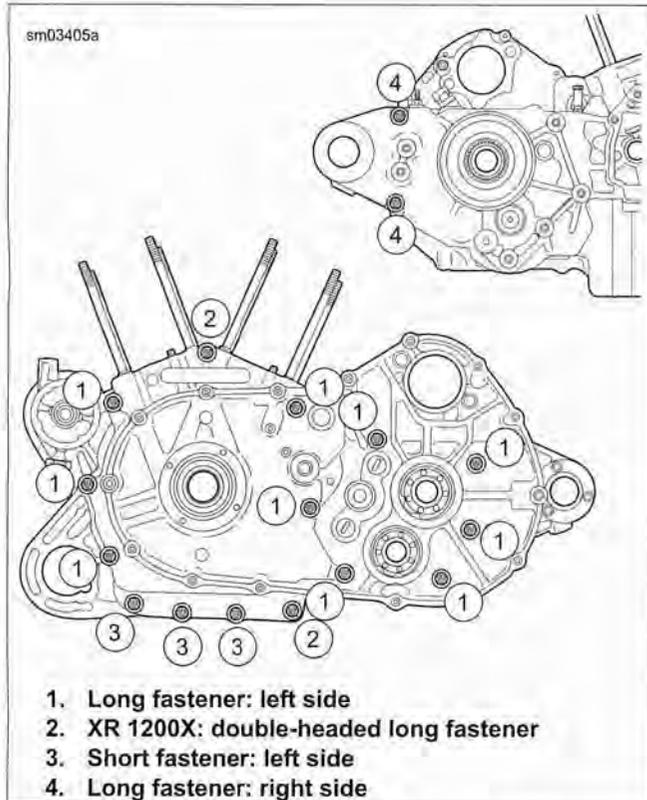

Figure 3-107. Crankcase Fasteners
**XR 1200X:** See Figure 3-107. The fastener between the cylinders is a double headed bolt (2).
4. Remove 11 long fasteners (1, 2) and four short fasteners (3) from left side of crankcase assembly.
5. Remove two fasteners (4) from right side of crankcase assembly.